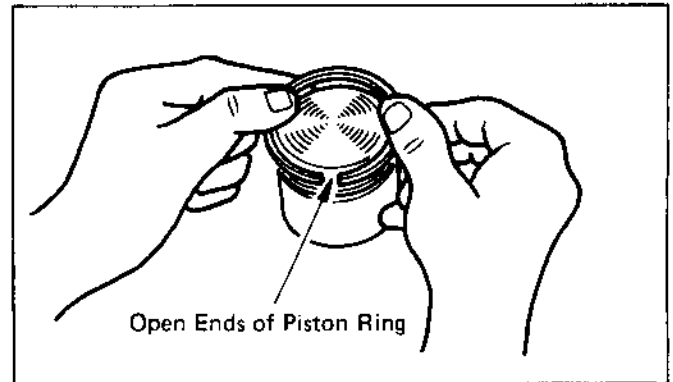

Fig. 6-3-12
a) PISTON RINGS (See Fig. 6-3-12)